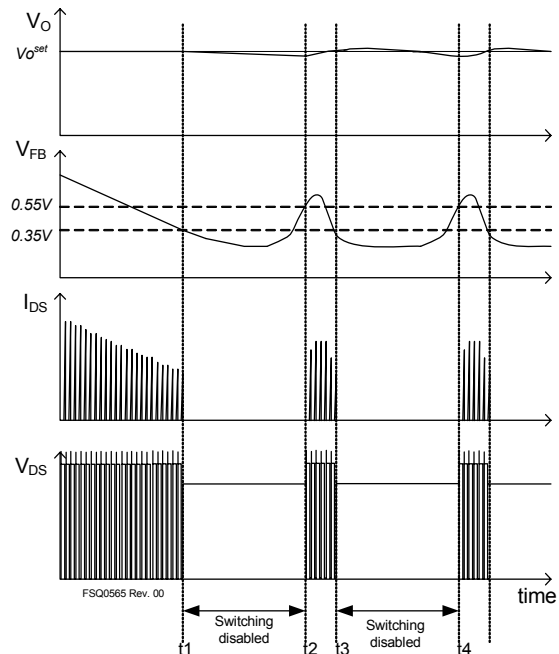

Figure 34. Waveforms of Burst Operation
6. Burst Operation: To minimize power dissipation in stand-by mode, the power switch enters burst-mode operation. As the load decreases, the feedback voltage decreases. As shown in Figure 34, the device automatically enters burst-mode when the feedback voltage drops below V_{BURL} (350mV). At this point, switching stops and the output voltages start to drop at a rate dependent on standby current load. This causes the feedback voltage to rise. Once it passes V_{BURH} (550mV), switching resumes. The feedback voltage then falls and the process repeats. Burst-mode operation alternately enables and disables switching of the power SenseFET, thereby reducing switching loss in standby mode.